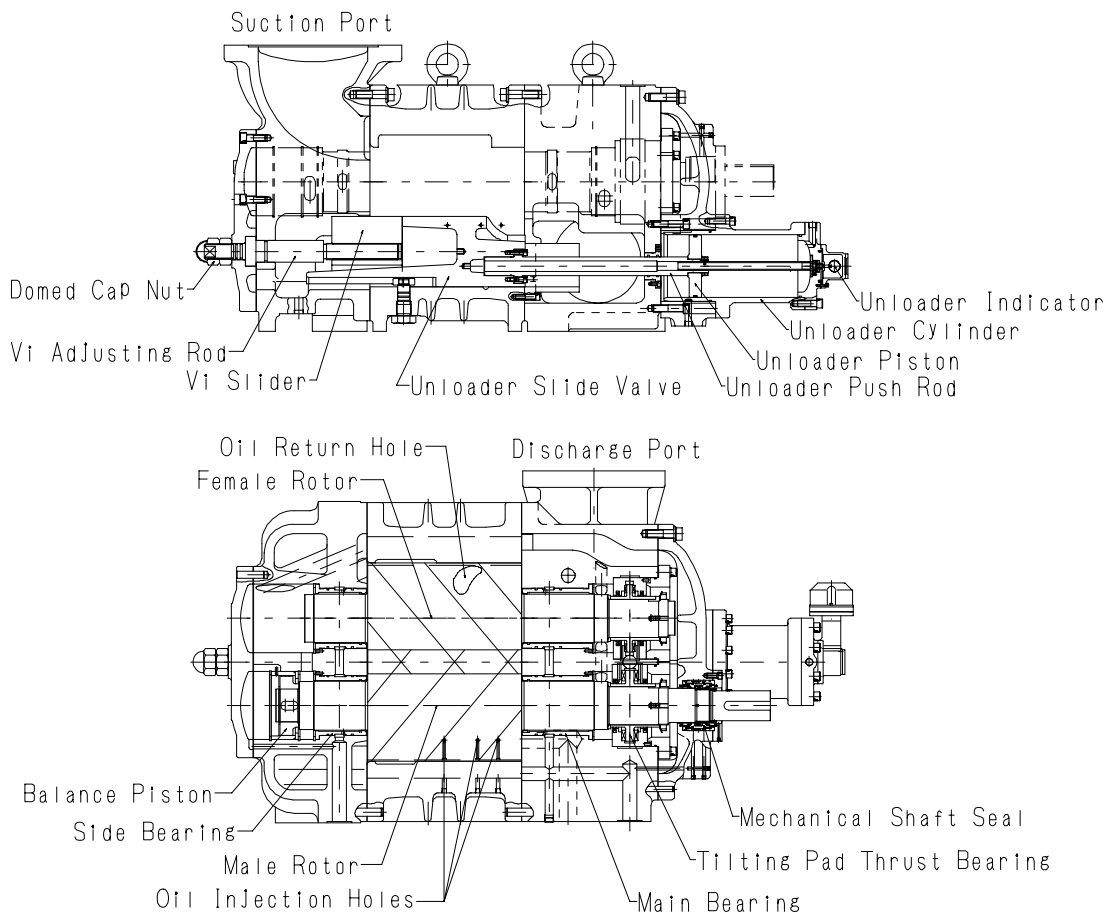

Fig. 1-1 General Structure of 400V
As shown in Fig. 1-1, male and female screw rotors which have different profiles are mounted in a casing. This is the main portion of the compressor which compresses the gas. The rotor having four (4) convex lobes is called the "male" or "M" rotor while the rotor with six (6) concave lobes is called the "female" or "F" rotor.